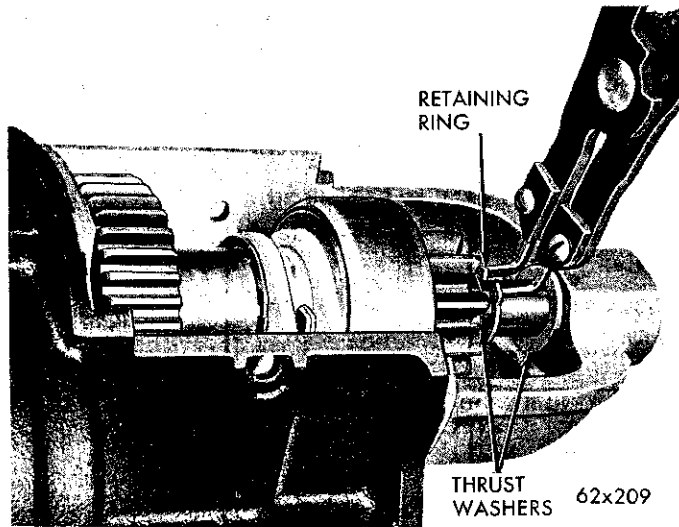

Fig. 12—Removing or Installing the Pinion Shaft Retainer Ring
(22) Release the retainer ring at the front of the pinion shaft (Fig. 12).